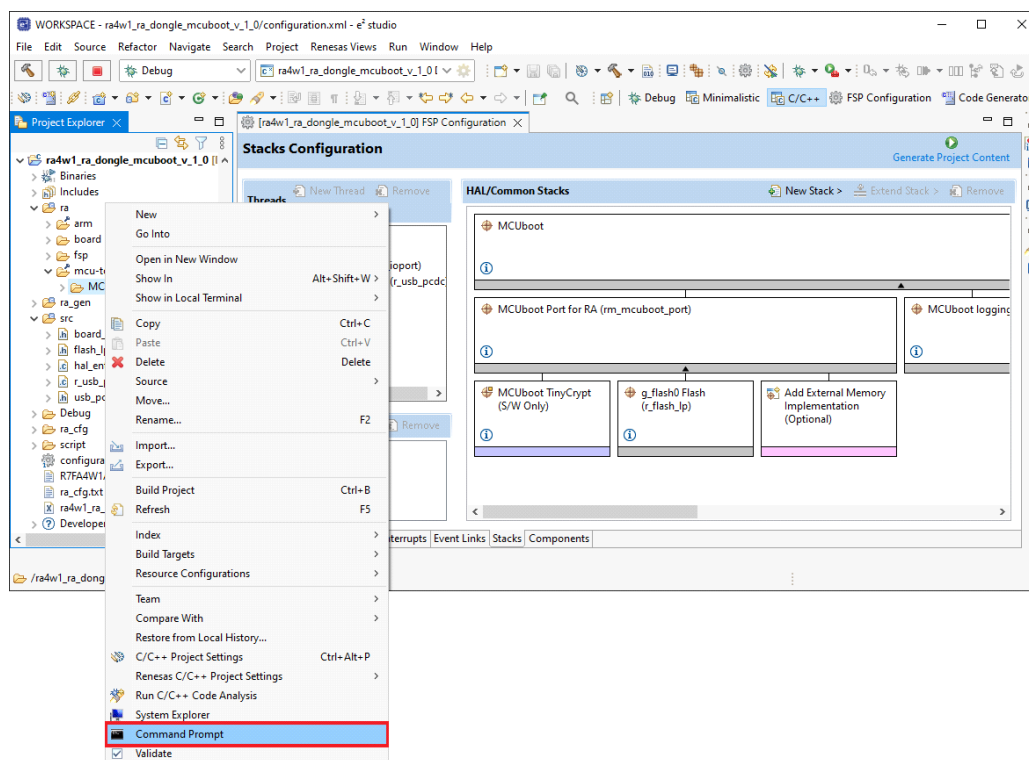

Figure 20. Opening Command Prompt in the MCuboot Folder
- In the e² studio Project Explorer, navigate to the **ra4e1_iso_dongle_mcuboot_v_1_0\ra\mcu-tools\MCuboot** folder (Figure 20).